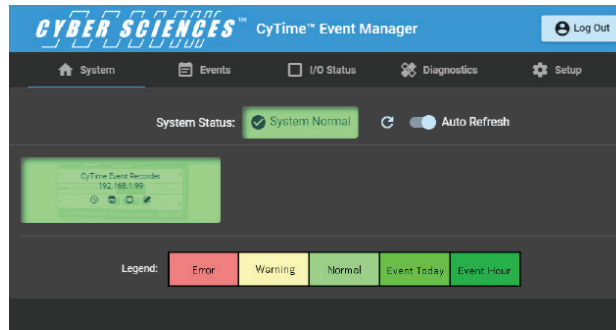

Figure 7. System Screen
Step 6: Once the SER devices have been located on the network, you can then go to the 'System' page. Here you will have a visual representation of all the SER devices on the network. (figure 7).